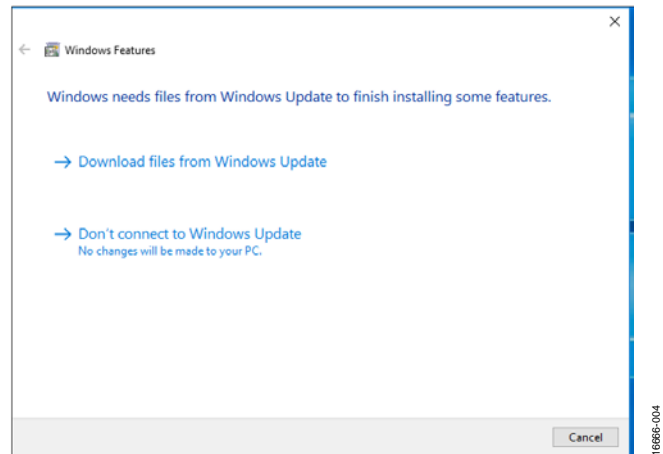

Figure 4. Prompt to Download Windows Updates
- c. After selecting the checkbox and clicking **OK**, the dialog box shown in Figure 4 appears. An internet connection is needed for this step. Select **Download files from Windows Update**.